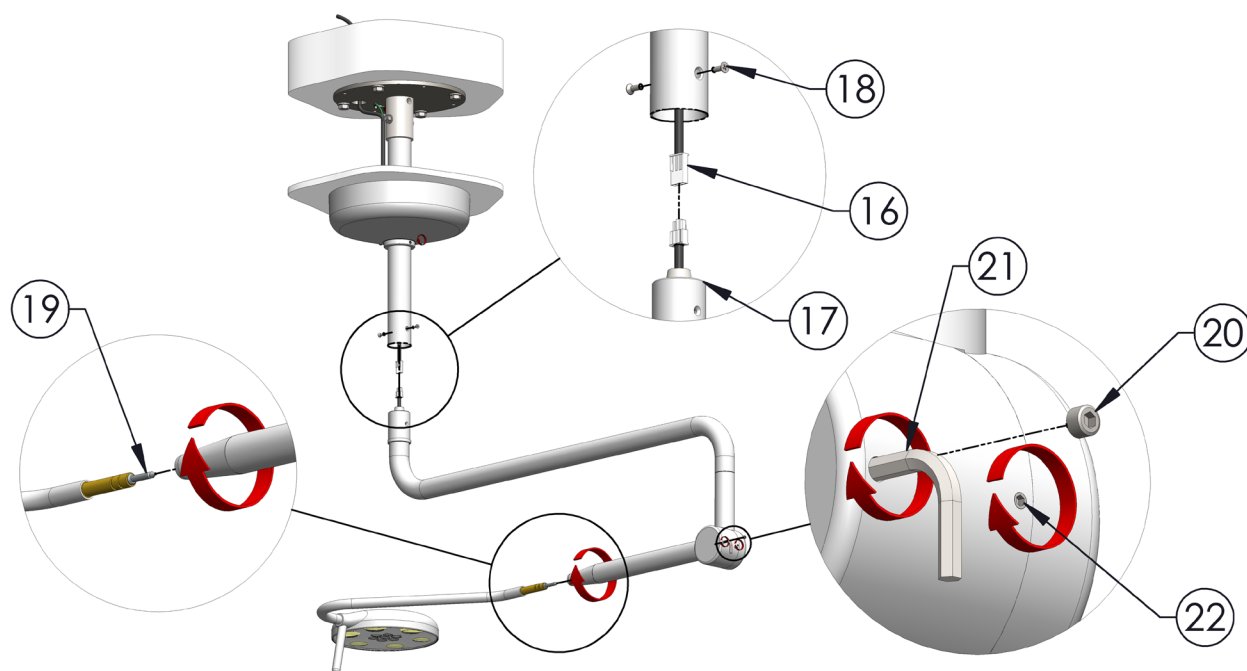

Fig. 14.0
16. Lift Phantom arm into place, and engage the 24V plugs as shown in Fig. 14.0.
17. Insert the arm bearing into the ceiling tube (taking care to align the threaded holes on the bearing sheath with the countersunk holes on the ceiling tube), as shown in Fig. 14.0.
18. Insert the countersunk-head set screws as shown in Fig. 14.0.
19. Optional - remove or replace the lamp head - twist the conical end of the arm and pull the head and s-bend section, as shown in Fig.14.0.
20. Unscrew the end cap for access to the spring balance adjustment, as shown in Fig. 14.0.
21. Adjust the spring balance: using a 4mm allen key, adjust the screw inside the knuckle. Clockwise/Tightening the screw will cause heavier engagement of the spring - this will improve 'head droop'. Anticlockwise/loosening the spring balance will fix a 'rising head' issue, as shown in Fig. 14.0.
22. Friction adjustment: Clockwise/tightening this screw will apply more friction to the arm mechanisms. The arm will require more force to move, and will not move as far with the momentum of an individual movement. This should be set to the staff preference, as shown in Fig 14.0.